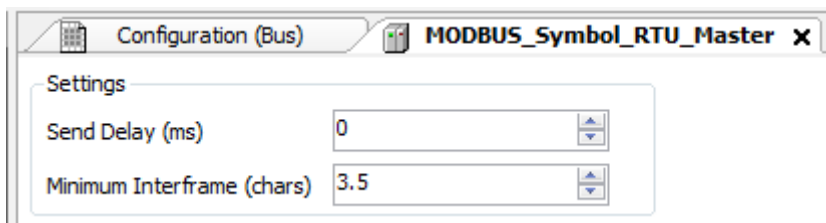

Figure 89: MODBUS RTU Master Configuration Screen
- Configure the general parameters of the MODBUS Master protocol, like: transmission delay times and minimum inter-frame as in Figure 89.